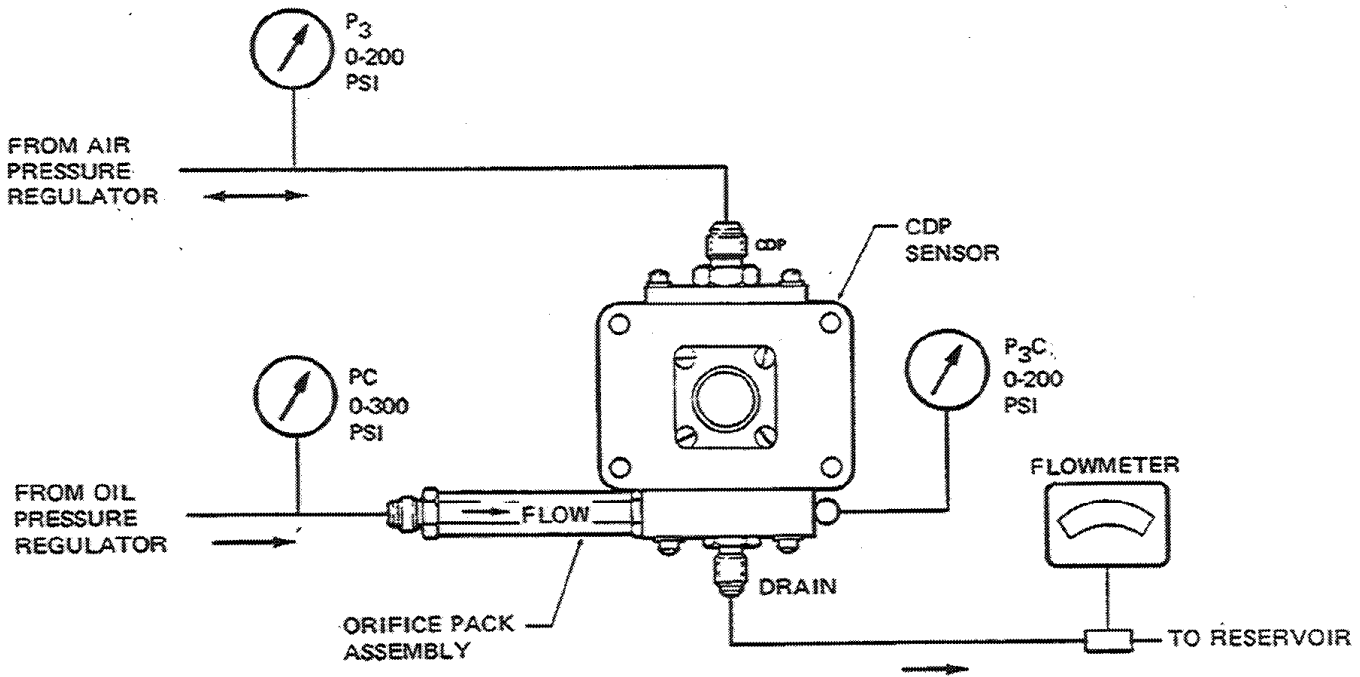

Figure 3-6. Typical Test Hookup for CDP Sensor Assembly
Figure 3.6 illustrates a typical test hookup.
3. Connect the sensor to a suitable test stand or to individual oil and air supplies as shown in Figure 3-6.